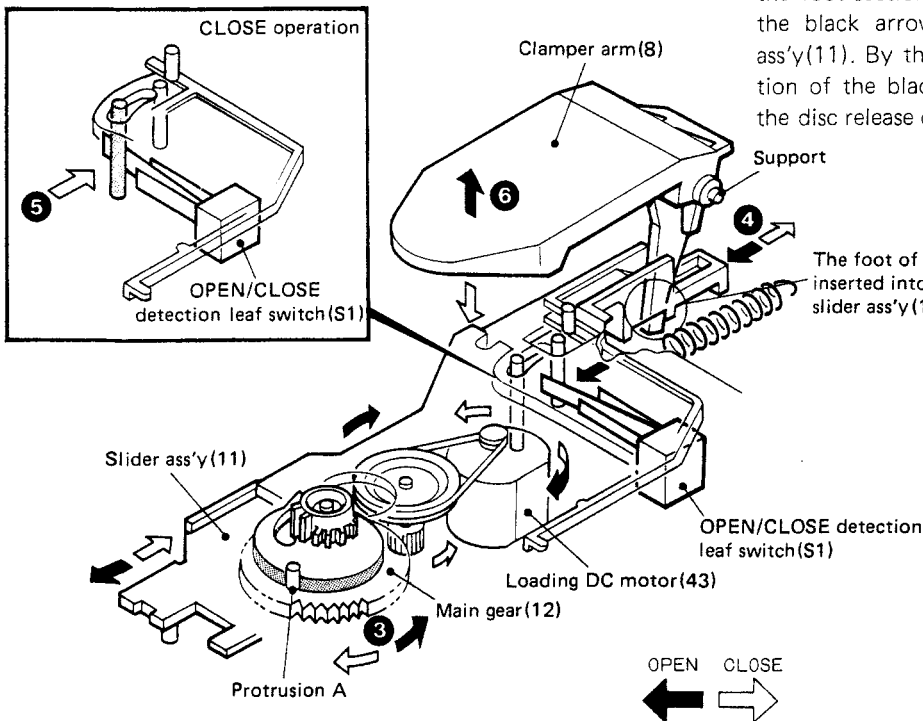

Fig. 3 Clammer arm operation
Fig. 3 shows the movement of protrusion A of the slider ass'y(11) in the direction of the black arrow ④ until the tray is completely opened.